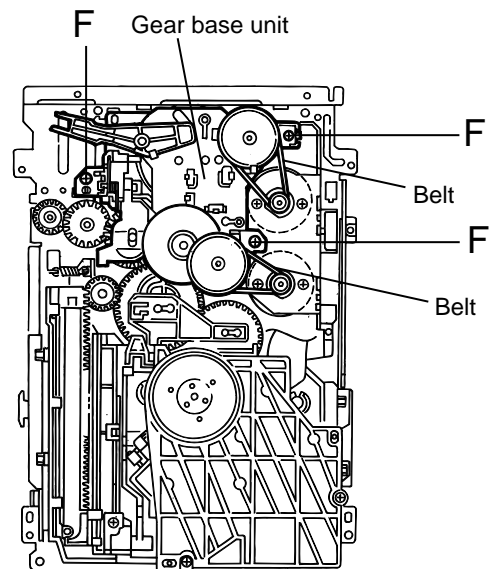

**Fig.13**
■ **Removing the flap base unit and the gear base unit (See Fig.13 and 14)**
- Prior to performing the following procedures, remove the servo control board, the top cover, the tray unit, the side unit (L) and the side unit (R).